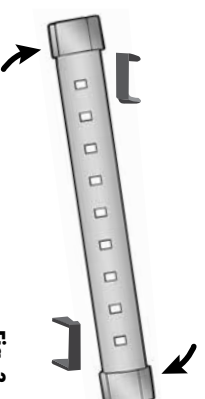

Fig. 3
Clean the Impeller	If the flow appears to be reduced, the Motor is making noise, or has stopped pumping water, or if you're an engineer that must take this apart to see inside, do the following: 3A. Unplug the Whisper® MicroFilter. 3B. Remove it from the aquarium, and then remove the Motor from the Filter Housing. (Fig. 3) 3C. Slide the Impeller Cover off the Motor. 3D. Remove the Impeller and rinse it in cold water. (Do not use a cleaning agent of any kind.) 3E. Rinse out the Impeller Well with cold water and make sure there are no obstructions (gravel, plant leaves, carbon, etc.). Replace the Impeller, the Impeller Housing, and then place the Motor back on the Filter Housing. 3F. Place the Whisper® MicroFilter back into the aquarium and plug back in.
- Install light:** Clip the LED into the underside of the hood (Fig. 3) and route the cord through the cord routers and out the back of the tank. The light is water resistant and low voltage, so if it should fall in the water, simply place it back in position.